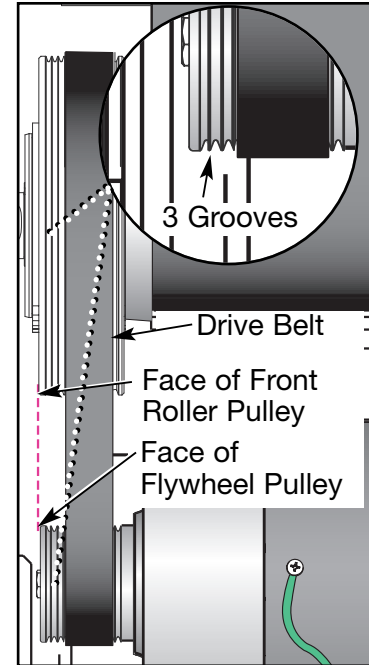

Figure 10
- D. Confirm that the drive belt is positioned three grooves over from the face of the flywheel and three grooves over from the face of the pulley. See Figure 10. **NOTE:** Failure to align the drive belt could cause squeaking.